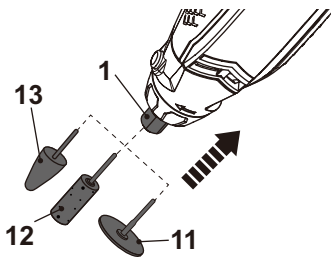

Fig. 4
- > Insert a suitable tool attachment into the tool socket (1) with at least 1/2 of its shaft into the collet (1b) (Fig. 4).